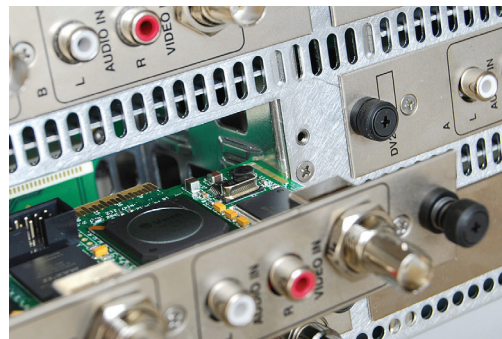

Figure 13-7: To Replace - Align Card with Internal Metal Guides
2. Gently slide the card into the slot until the rear edge of the card is seated in the connector at the back of the card slot. See Figure 13-7.